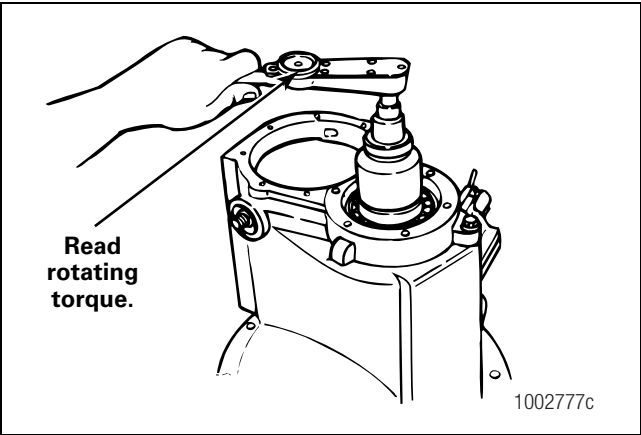

Figure 5.16
1. Place an inch-pound (N·m) torque wrench and the correct socket onto the drive pinion nut. Figure 5.16.